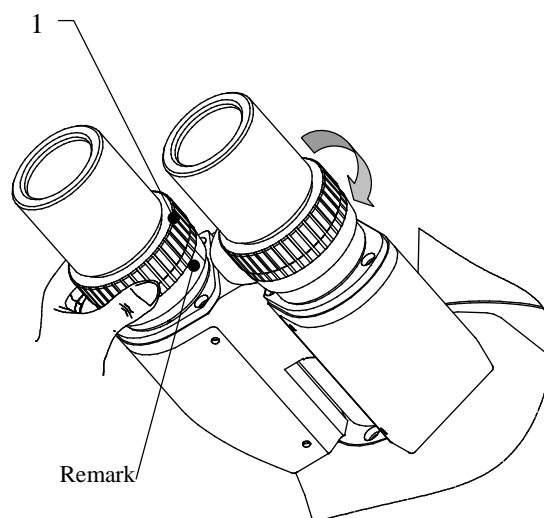

Fig.8
Turn the diopter ring 1 of the left and right eyepiece tube, and when the “0” diopter position is aligned with the side scale (mark white line), as shown in Fig. 8
- (6) The tension of the coarse focus control knob 2 is adjustable and preset at the factory for ease of use. If you wish to adjust the coarse focus tension, turn the tension knob 4 to adjustment. Turn the wheel anticlockwise increase the tension, and clockwise decreases it, as indicated by the arrow in the figure 8.